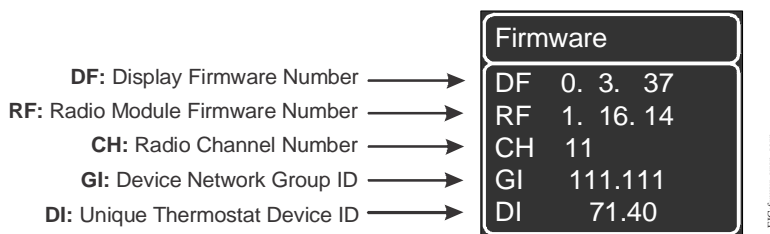
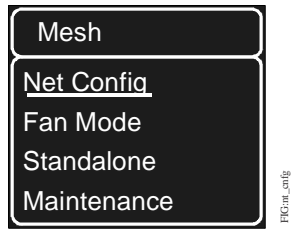

Figure 5: WT-4000 Series Room Thermostat Firmware Version Screen
Figure 6: Selecting Net Config
4. Press and hold the Shoulder button  and the Override button  simultaneously for 6 seconds to set the room thermostat in the Configuration Mode. Initially, the LCD changes to the firmware version screen (Figure 5), and then after 10 seconds the configuration menu appears (Figure 6).
1. While in the Configuration Mode, press the Up/Down buttons to select the **Net Config** option (Figure 6).